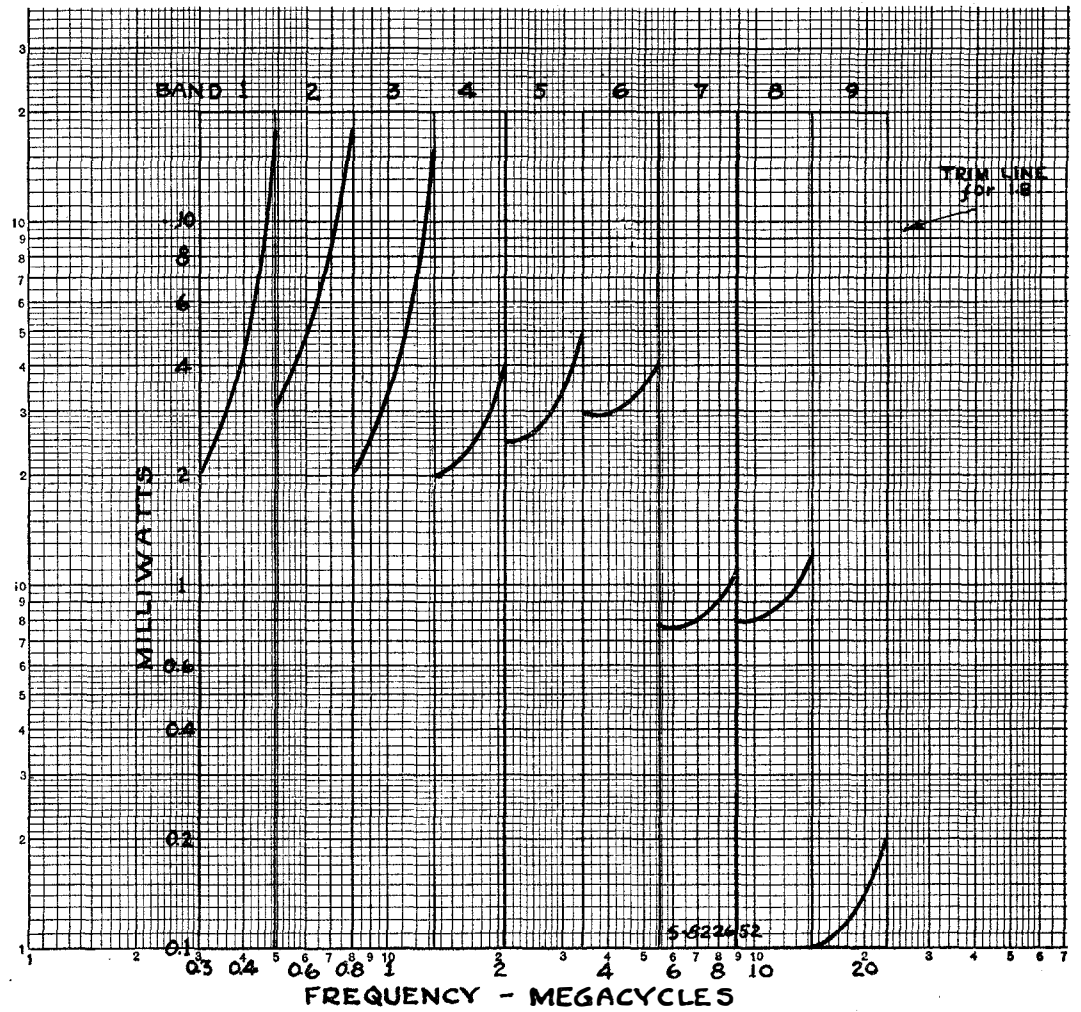

Figure 9—Maximum Noise
11.2-1 Figure 9 shows approximate values of maximum receiver noise level for the various bands. This data will be found useful for a rough check on sensitivity. The method of measurement is to adjust the receiver as for sensitivity (see 11.1), switch off signal generator, increase "Sensitivity" control to maximum and measure output noise voltage. The measured values of noise may be expected to vary considerably due to atmospheric conditions, tube characteristics, external noise conditions, etc., so that unless the noise output is definitely low, no attempt should be made to improve performance and, in any case, the sensitivity should first be accurately checked as explained in Section 11.1.
11.2-2 If measuring equipment is not available, an approximate measurement may be made by adjusting the "Regeneration" control to critical oscillation and all other controls for maximum noise output. The antenna terminal should be connected to ground through a 300-ohm resistor preferably inside the receiver cabinet (to eliminate external noise pickup). In this case, the noise output should be approximately 3 db higher than the values shown in Figure 9. (This is twice the value of milliwatts shown therein.)